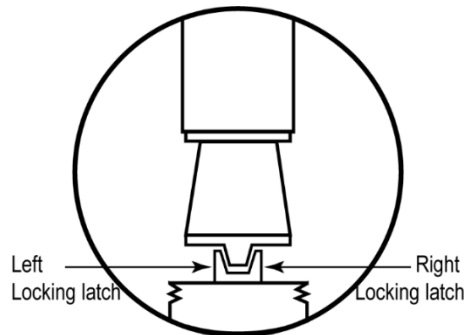

Figure 1: Locking latches of the ON/OFF/ARM Switch
- (e) Do a visual check of the locking latches of the ON/OFF/ARM switch: make sure that the 4 locking latches are not damaged as described in Figure 1.